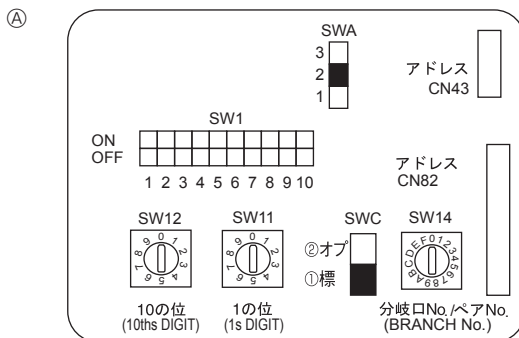

Fig. 6-6
6.4. Setting addresses (Fig. 6-6)
6.5. Switch setting for different ceiling heights (Fig. 6-6)
6.6. Sensing room temperature with the built-in sensor in a remote controller (Fig. 6-6)